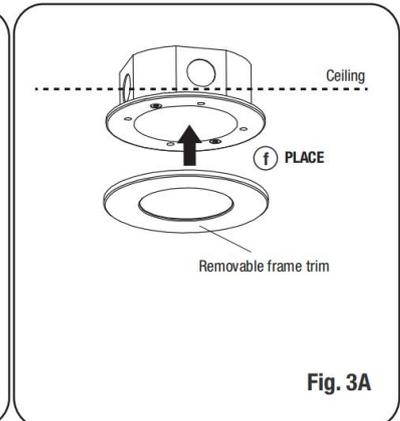

Fig. 3A
6. Place and attach the desired frame trim on the luminaire (magnetic system) as shown in Fig. 3A, step "f".